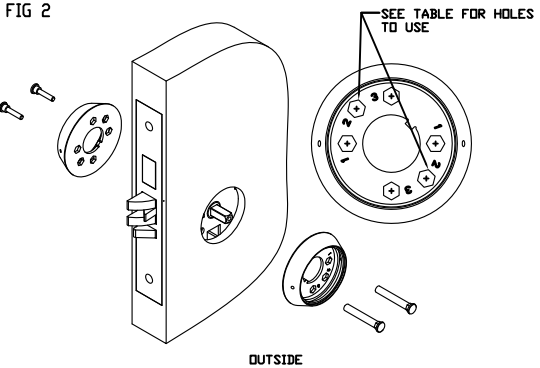

FIG 3
5. INSTALL THE KNOB ASSEMBLY INTO THE ROSE- ALIGN TABS. SET SCREWS HAVE TO BE FLUSH OR BELOW THE SURFACE TO ALLOW CLEARANCE. SEE FIG 3.